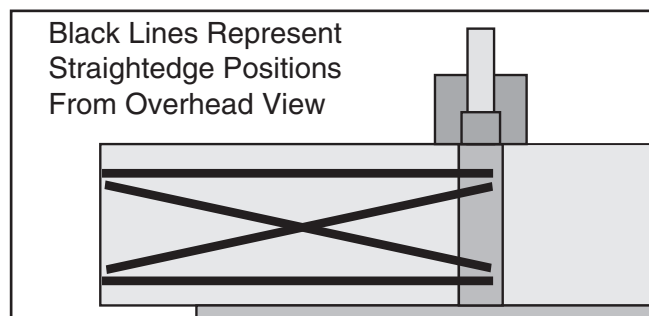

Figure 54. Straightedge positions for verifying if outfeed table is parallel with cutterhead.
- Place straightedge in one of the positions shown in **Figure 54**, and adjust eccentric bushings so straightedge touches cutterhead body while lying flat across outfeed table (a pin-type spanner wrench or small hammer and punch may be necessary to turn eccentric bushings).